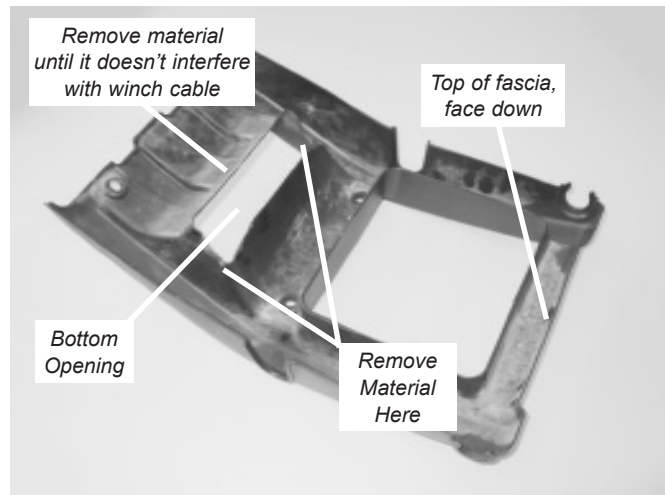

Figure 18 Cut Edges of Plastic Fascia
13. If the plastic fascia is to be reinstalled, material must be removed from the bottom opening. Place the plastic fascia face down in the ground. Remove material from the top corners of the bottom opening as shown in figure 18. Also, remove material from the bottom edge of the bottom opening. This will prevent the winch cable from rubbing against it. If during the next steps you find there is interference between the upper mounting bracket (A1) or the winch cable, remove the fascia and remove more material as needed.